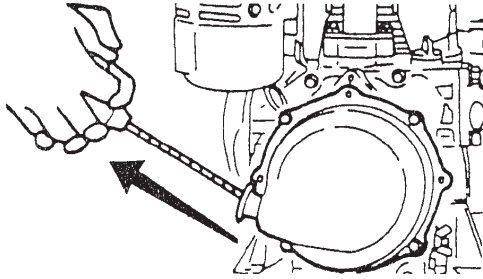

Figure 11. Engine Start Handle
3. Grasp the starter grip (Figure 11) and slowly pull it out. The resistance becomes the hardest at a certain position, corresponding to the compression point. Pull the starter grip briskly and smoothly for starting.